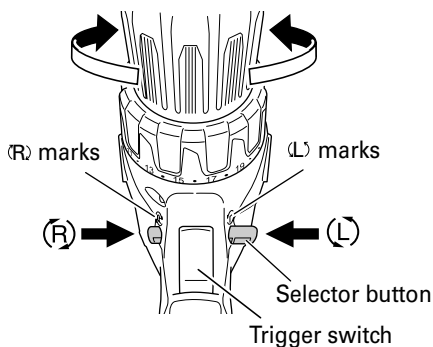

Fig. 6
3. Check the rotational direction. The bit rotates clockwise (viewed from the rear side) by pushing the R-side of the selector button. The L-side of the selector button is pushed to turn the bit counterclockwise (See Fig. 6). (The (L) and (R) marks are provided on the body.)